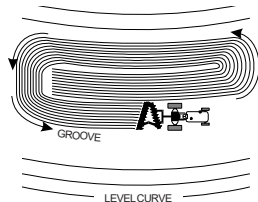

FIGURE 18
- 3 - Do not turn to the right side, look the figure 18. The harrowing ground should always be to the left of the tractor driver.